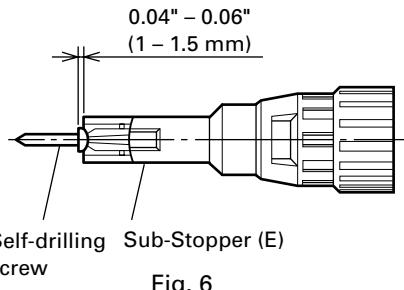

Fig. 6
**(3) For cross-recessed self-drilling screws (Fig. 6)**